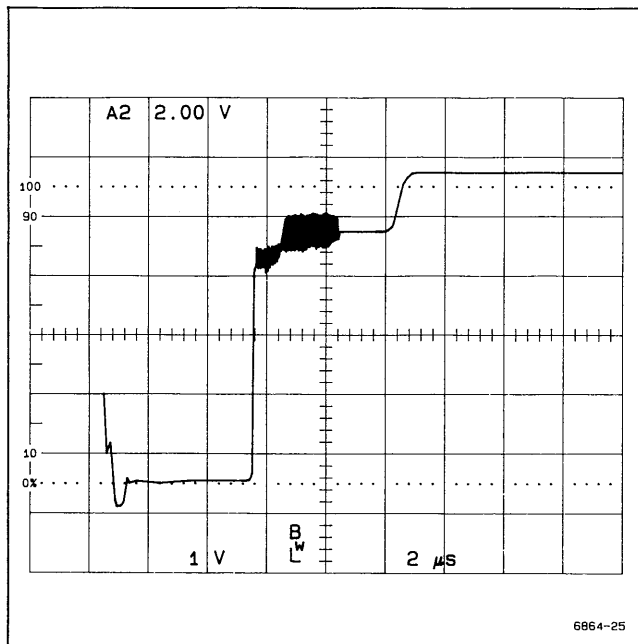

Figure 2A-1. Loop Gain Adjustment.
h. While watching the waveform displayed on the bench scope, turn R5608 on the TV board and observe the waveform. As you decrease the resistance of R5608 you will see the aberrations in the bottom of the sync pulse decrease. The pot should be adjusted to the point where the bottom of the pulse just starts to move down, as shown in Figure 2A-1. If you continue to decrease the resistance, the portion closest to the rising edge of the sync pulse will move down and the bottom of the sync pulse will flatten out completely, as shown in Figure 2A-2. This indicates an overdriven condition. When the pot is properly adjusted it should be somewhere in the middle of its range.